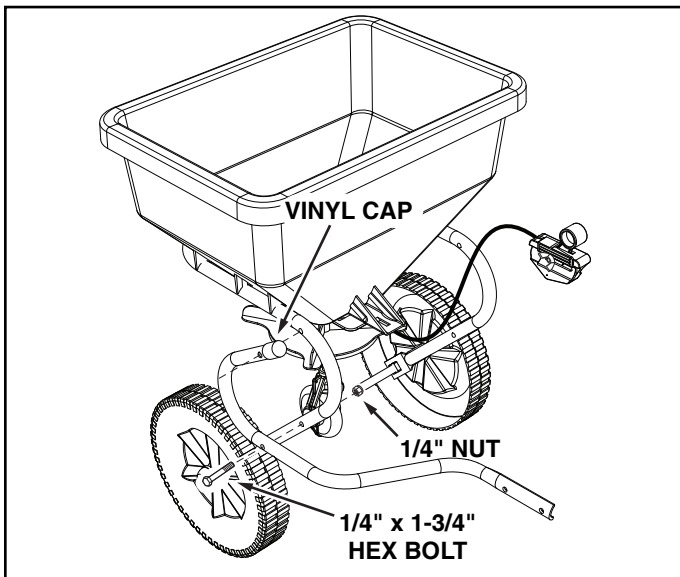

FIGURE 1
1. Assemble vinyl caps onto the ends of the R.H. and L.H. Hitch Tubes. See figure 1.
2. Assemble the R.H. Hitch Tube to the spreader frame tube using two 1/4" x 1-3/4" hex bolts and 1/4" nuts. **Do not tighten yet.** Repeat for L.H. Hitch Tube. See figure 1.